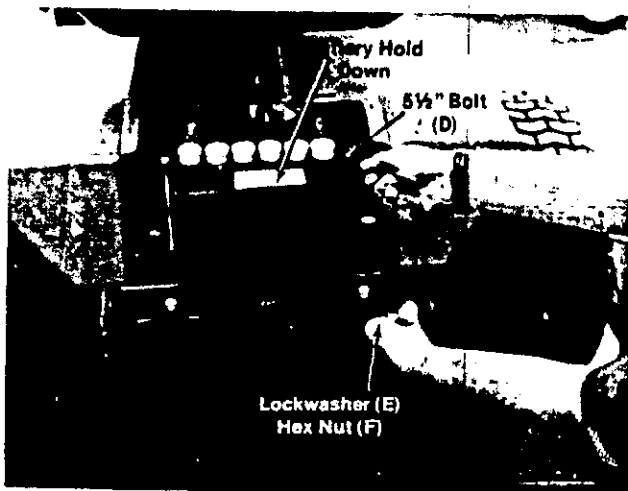

FIGURE 7.
- Place the battery hold down over battery and secure in place with hex screws (D) 5 1/2 inches long, lockwashers (E), and hex nuts (F). See figure 7.